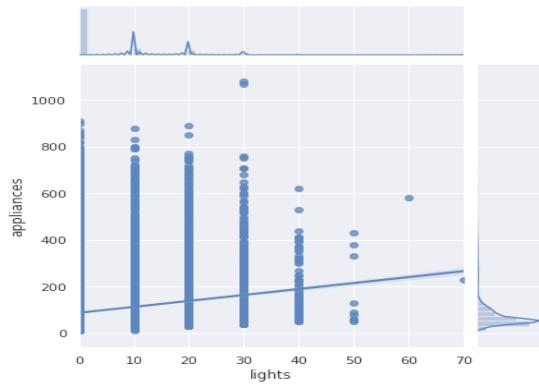

Fig 25
- Between Appliance and Lights, as shown in fig 25